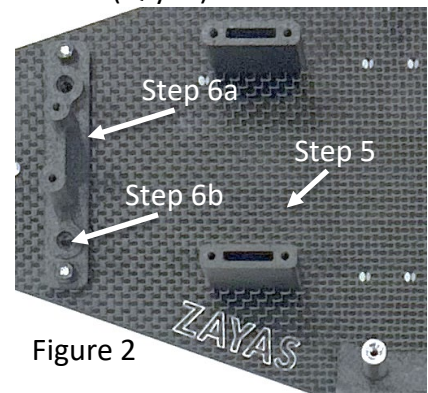

Figure 2
- **Step 6a:** Install the bellcrank adapter with the supplied 4-40 x .5" (Qty. 2) flat head screws on the middle two holes. Tighten the screws all the way. **Note:** The bellcrank adapter needs to be installed with the taller support on the left side, see Figure 2